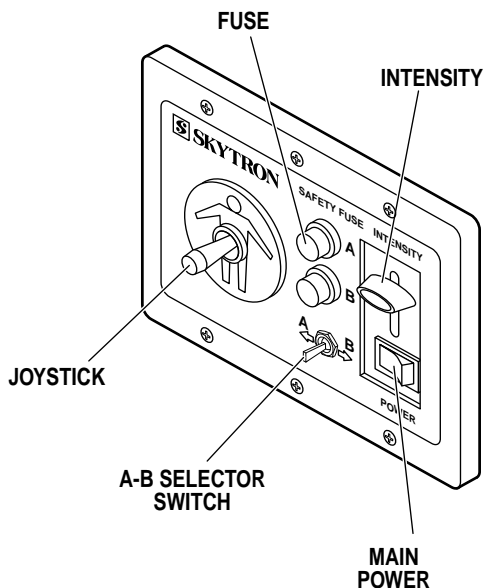

Figure 1.
1. Turn the power to the light(s) "ON" by pushing the main power switch located at the bottom right of the wall control. See figure 1.
4. The wall control joystick can control positioning for two separate light fixtures. For dual fixture installations, the lightheads are labeled "A" and "B". Position the A-B selector switch (on the wall control) for the lighthead to be positioned and use the joystick to position the light beam. See figure 1. Change switch position and repeat procedure for remaining lighthead.